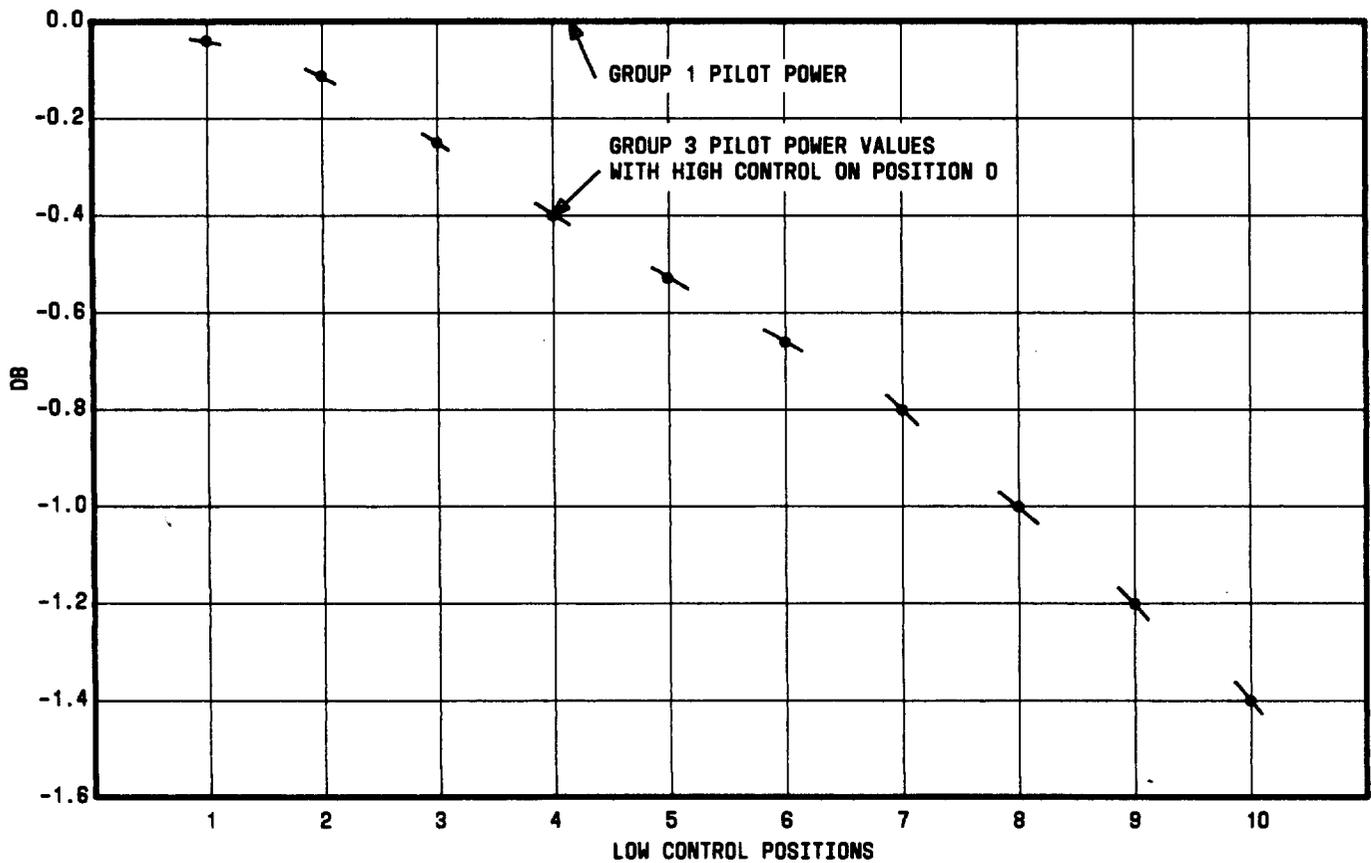

Fig. 4—Group 3 Pilot Power Values Relative to Group 1 Pilot Power
**Note:** Each step of an equalizer control (Fig. 4) provides a change of approximately 0.2 dB at the low or high end of the basic supergroup band.